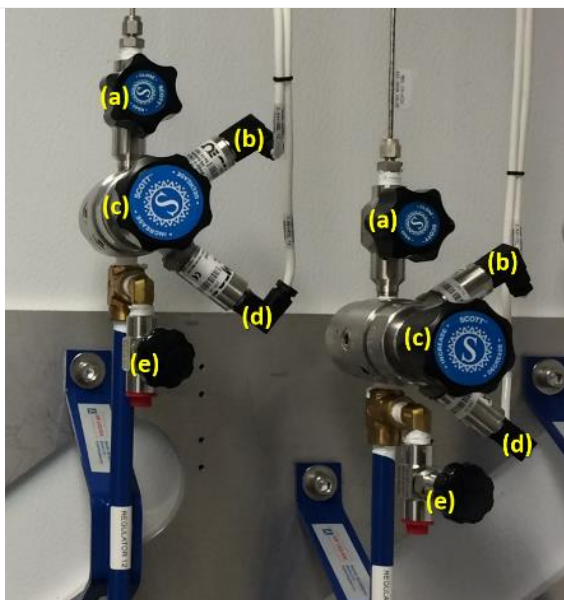
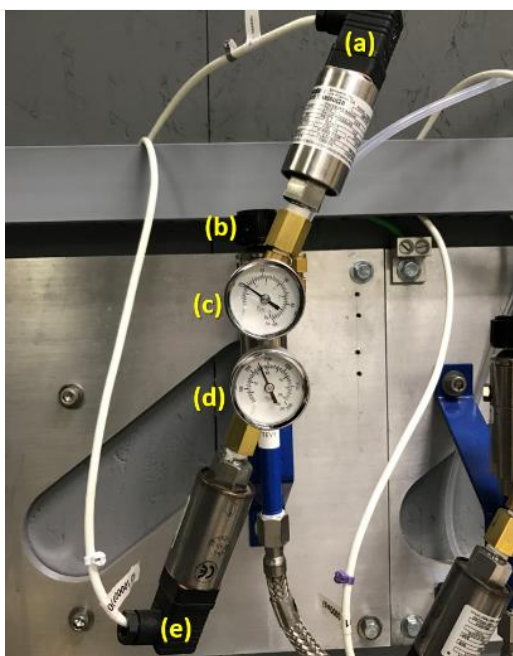

Figure 13. High Purity Regulator for ECSE System.
Figure 14. Standard Regulator for ECTE System.
- Ensure the correct regulator is in use for the compressed gas contained in the cylinder and pressure rating. The ECSE system uses a high purity regulator and the ECTE system uses a standard regulator. **Figure 13** and **Figure 14** display these differences in **Table 7** below.
Figure 13 displays a high purity regulator, which mounts horizontally, and affixes to the ECSE compressed gas cylinders in the Hut.
Figure 14 displays a standard regulator, which mounts vertically, and affixes to the ECTE compressed gas cylinders in the Hut.